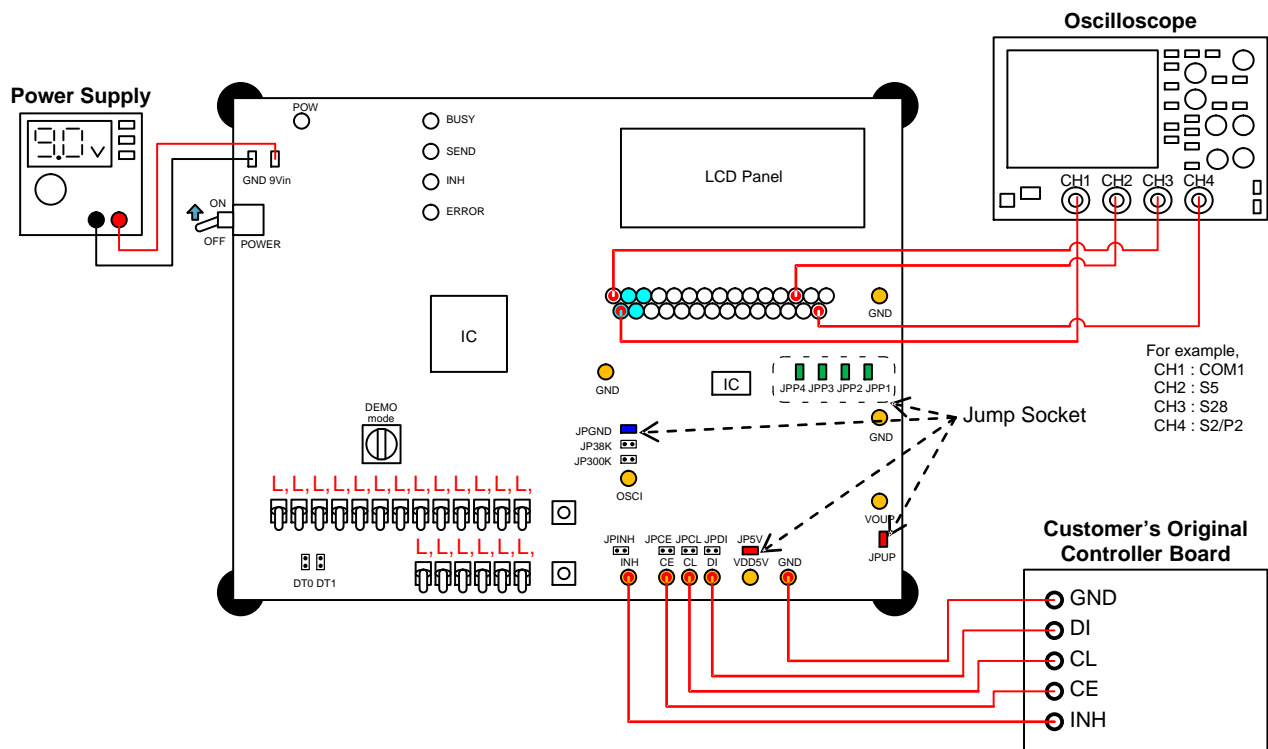

Figure 5. The Test Constitution when the Customer's Original Controller Board Is Used
1. Connect the test setup as shown in Figure 5.